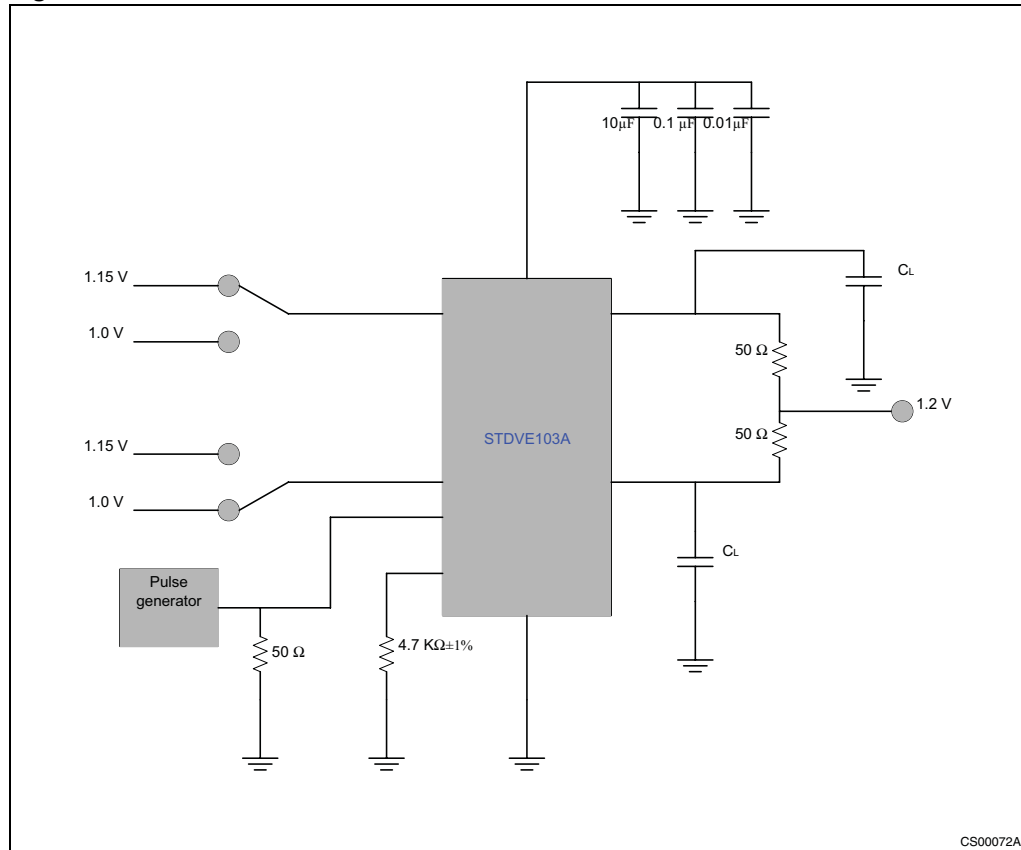

Figure 9. Test circuit for HDMI receiver and driver
2. The tr transition time is specified with maximum load of 2 kΩ pull-up resistance and 400 pF load capacitance. Different load resistance and capacitance will alter the RC time constant, thereby changing the propagation delay and transition times. Refer to Figure 9.